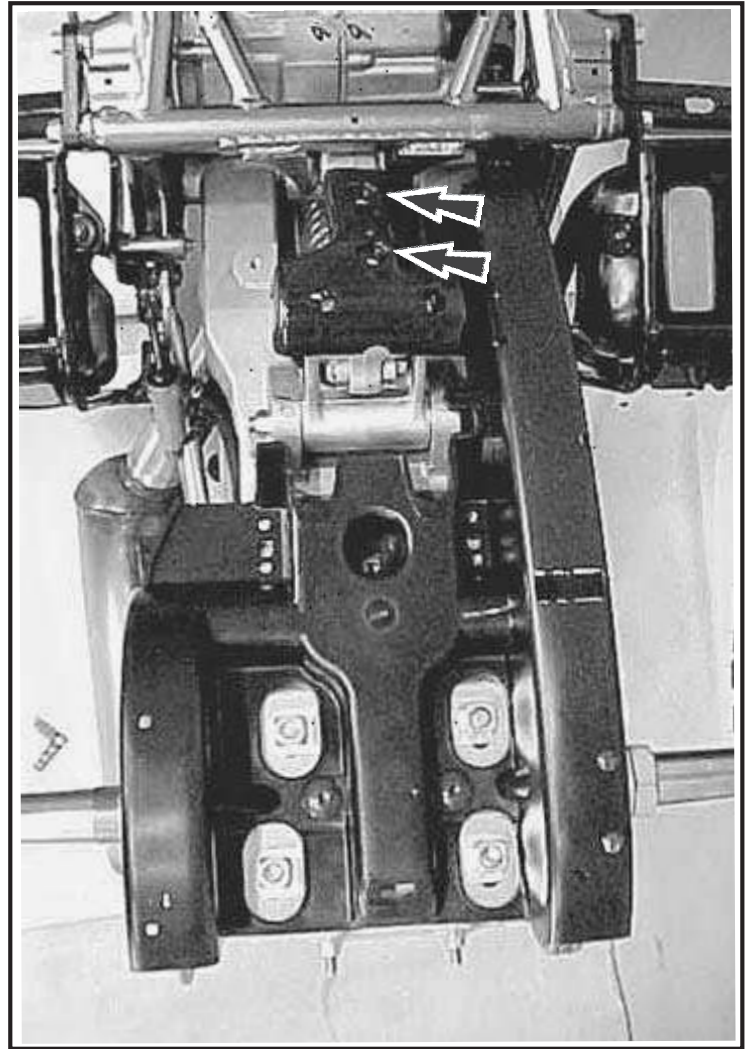

Fig. 1
1. Remove mounting bolts from stock linkage protector and remove. (See Fig 1)